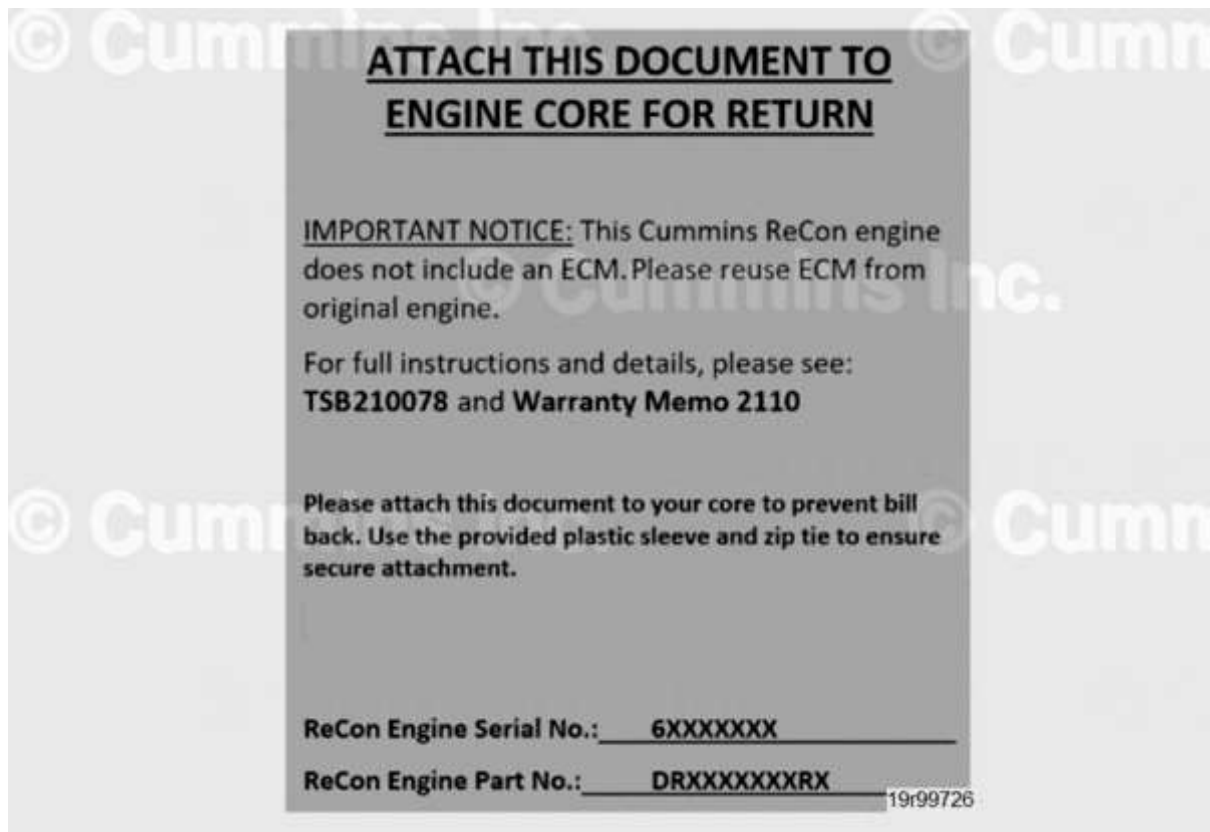

Figure 1, Hang Tag Put in Place of the ECM.
6. All affected ReCon® engines will arrive with a hang tag (see Figure 1 below) in place of the ECM. This tag **must** be attached to the core engine prior to being returned.